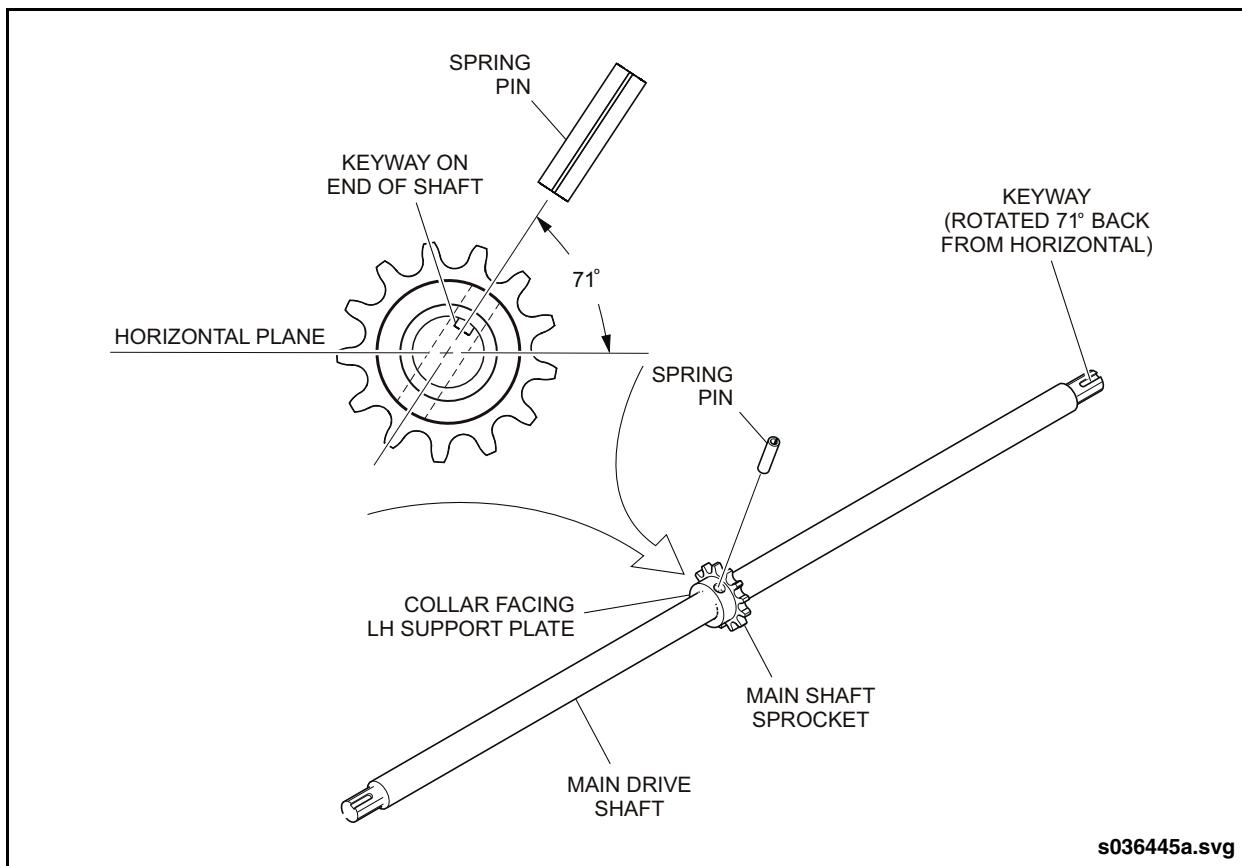

Fig. 20-17: Drive Sprocket Installation
12. Slide the driveshaft and sprocket assembly through the RH support plate and bearing. Engage the teeth of the drive sprocket with the chain so that the angle of the shaft keyways and the spring pin are at 71° from horizontal. See "Fig. 20-17: Drive Sprocket Installation" on page 24.